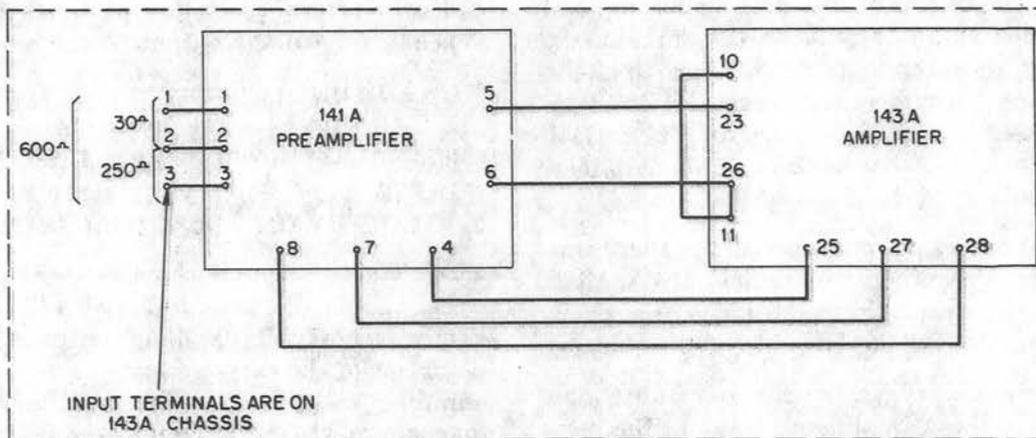

Fig. 2 — 143B Block Diagram
2.01 Figs. 2 and 3 show the circuit arrangements of the 143B and 143C amplifiers, respectively, in block diagram form. Schematic diagrams of the early and late models of the 143A amplifier are shown in Figs. 4 and 5. A schematic diagram of the 141A amplifier (the input device used in the 143B arrangement) is shown in Fig. 6.
2.19 Terminals 1 through 8, inclusive, are not used on the 143A amplifier. They are used as input terminals on the B and C models as shown in Figs. 2 and 3, Table 1, and in modifications of the 143A amplifier as described in Section 024-107-101. The normal connections for the remaining terminals are shown in Table 3.
23	Basic input terminal (see Figs. 2 and 3. Normally strapped to terminal 9 on 143A amplifier)
* If only one input is used, the other ungrounded terminal (10 or 9) should be connected to terminal 11 (see Fig. 2).
2.21 This amplifier when used as the basic model has two high-impedance input channels (terminals 9 and 11, and terminals 10 and 11) which may be operated from a variety of input sources. Each input has an internal impedance of over 250,000 ohms, and may be operated from any source impedance from zero to 250,000 ohms. Each input essentially consists of resistors R1 and R2, respectively. If only one input is used, the other ungrounded terminal (10 or 9) should be connected to terminal 11. Fig. 2 shows the arrangement. This amplifier is equipped with a continuously adjustable potentiometer (P1).
2.22 This is a high-gain amplifier consisting of a 143A amplifier and a preamplifier coded 141A amplifier. Fig. 2 shows a block diagram of the 143B amplifier. In addition to the master gain control (P1) in the common amplifier there is an additional control which is part of the 141A amplifier and is adjustable in four steps of 10 db each. Referring to Fig. 6, it will be seen that the input circuit, which comprises the 141A amplifier, consists of a 3-stage low level amplifier. Its gain is adjustable from 40 to 70 db. The input transformer will accommodate microphones or other low level devices having a nominal source impedance of 30, 250 or 600 ohms. This transformer has a permalloy core and case. It is mounted on the amplifier chassis by means of a clamp that may be loosened to allow the transformer to be rotated to a position of minimum noise pickup when